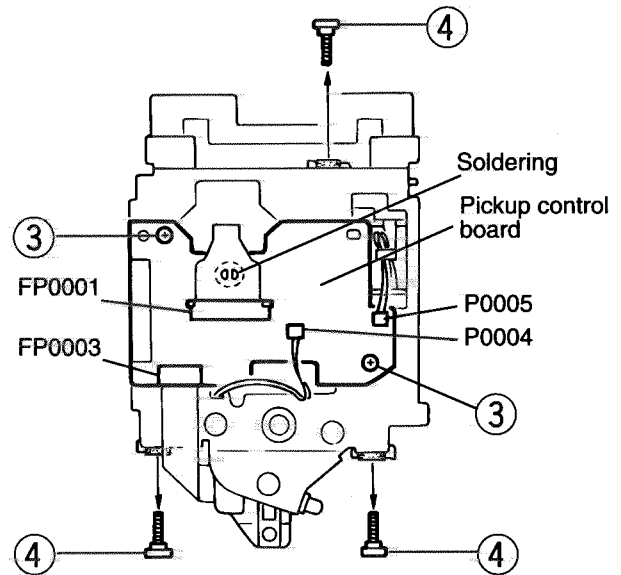

Fig. 7
(See Fig.7 and 8)
■ Removing the Chassis Flame (See Fig.7)
3. Remove the three screws ④ attaching the chassis flame and the damper.